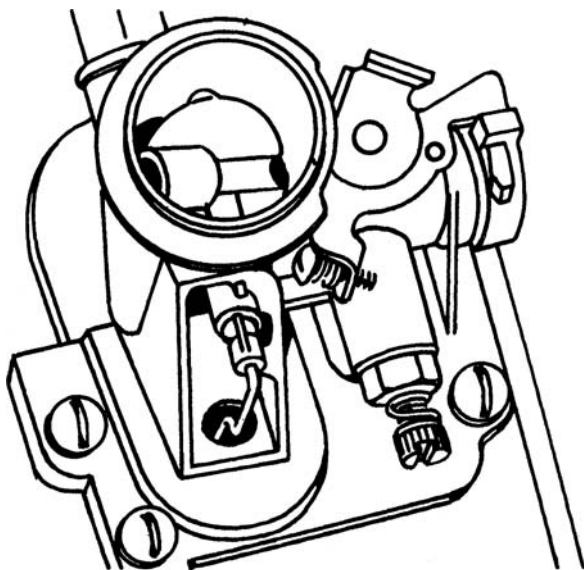

FIG. 4-9. *Complete the assembly while holding the choke closed.* Briggs & Stratton Corp.
4. Depress the choke butterfly with one finger and attach the actuating link (Fig. 4-9). This action preloads the diaphragm spring.